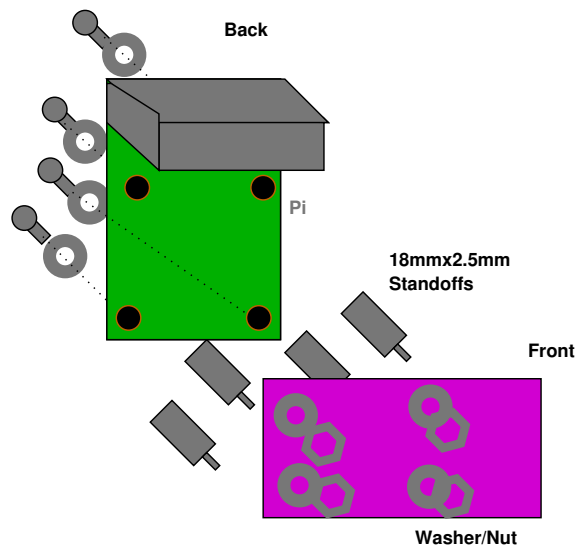

Figure 7: Hastily thrown together pi standoff diagram.
- (b) If you haven't already, attach the Pi to the sound board using the 18mm standoffs, 2.5mm screws, and washers. See Figure 7. Be careful as once the header is attached it is hard to get off again.